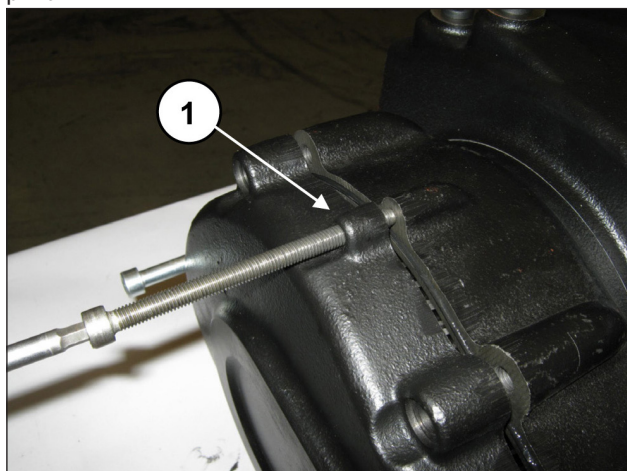

Fig. 6
Slowly screw in the 3 M8 screws (pos. ①, Fig. 6) with the function of extractors to fully remove the cover unit and pinion